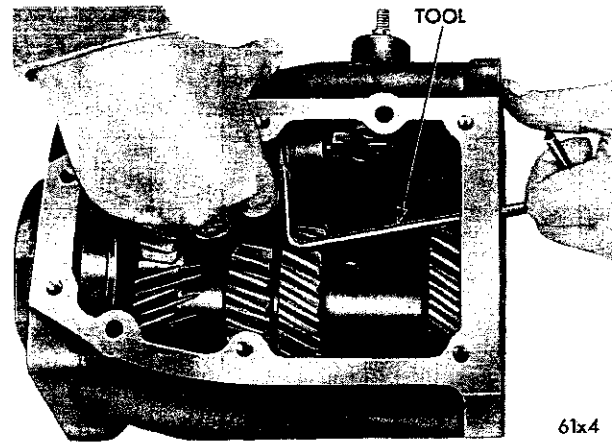

Fig. 8—Installing the Detent Balls (Using Tool C-3765)
(1) Install two new lever shaft seals in the transmission case, using seal driver Tool C-3650.
(2) Install the 2nd and 3rd speed lever shaft in the bore provided in the transmission case.
(3) Install the 2nd and 3rd speed lever shaft lock pin in the hole in the case boss, (after coating with a suitable sealer) starting the pin at the top of the hole and driving it downward. While the lever shaft lock pins must be driven in firmly to prevent leakage or loss of the pin, some caution must be exercised to avoid driving the pin in too tightly, causing distortion or mushrooming of the pin. This could result in much difficulty if it is necessary to remove the pin at a later date.
(4) Place the interlock parts in position in the case in the following order: ball, sleeve, spring, pin and ball.
(5) While using the detent ball installer Tool C-3765, as shown in Figure 8, to depress the detent ball against the spring tension, push the low and reverse lever shaft firmly into position so it engages the detent ball.
(6) Remove the detent ball installing tool.
(7) Install the low and reverse lever shaft lock
(8) Place the low and reverse fork in the lever shaft, with the offset toward the rear of transmission (Fig. 8).